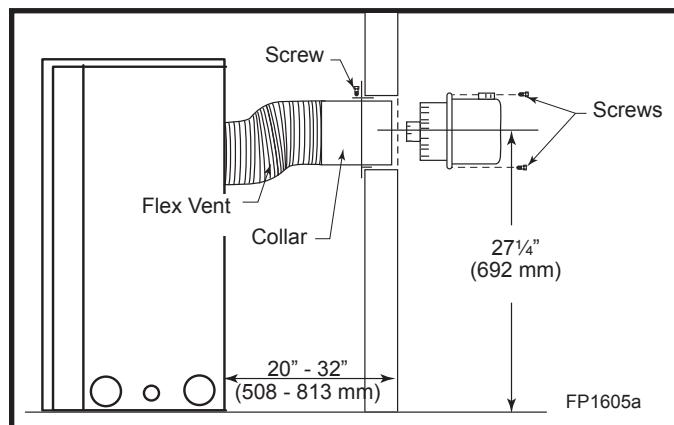

Fig. 25 The centerline of the termination must be 27 ¼" (692 mm) off the floor.
- Determine where the termination is to be installed. (Fig. 25)